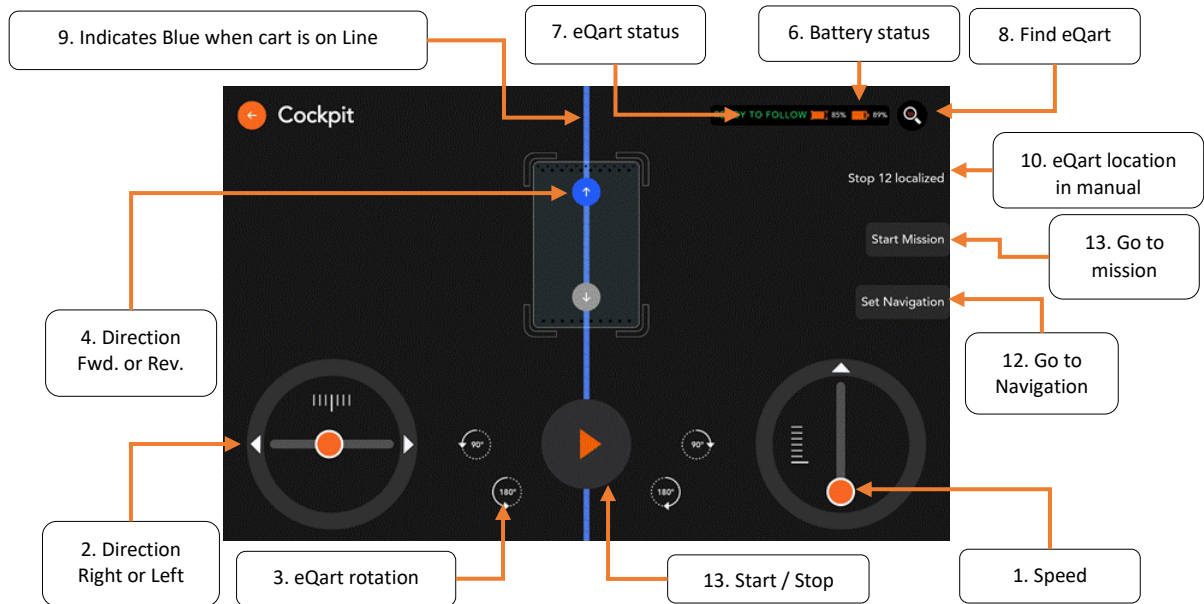

Figure 26 The eQart Cockpit Manual drive view
- When the line is detected by the eQart, then that is shown on the screen. (see Figure 26 The eQart Cockpit Manual drive view)
- The function of the "Start/Stop" (13) button, shown as a play symbol is to start and stop the eQart in Line follow mode.